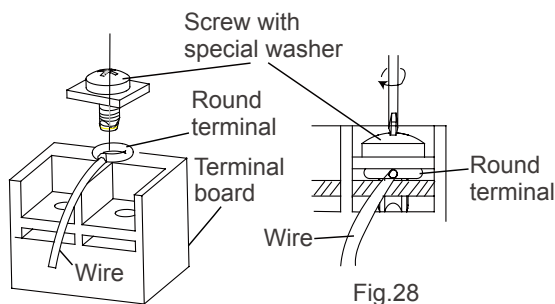

Fig.28
- 4). Position the round terminal wire, and replace and tighten the terminal screw with a screwdriver.(Fig.28)